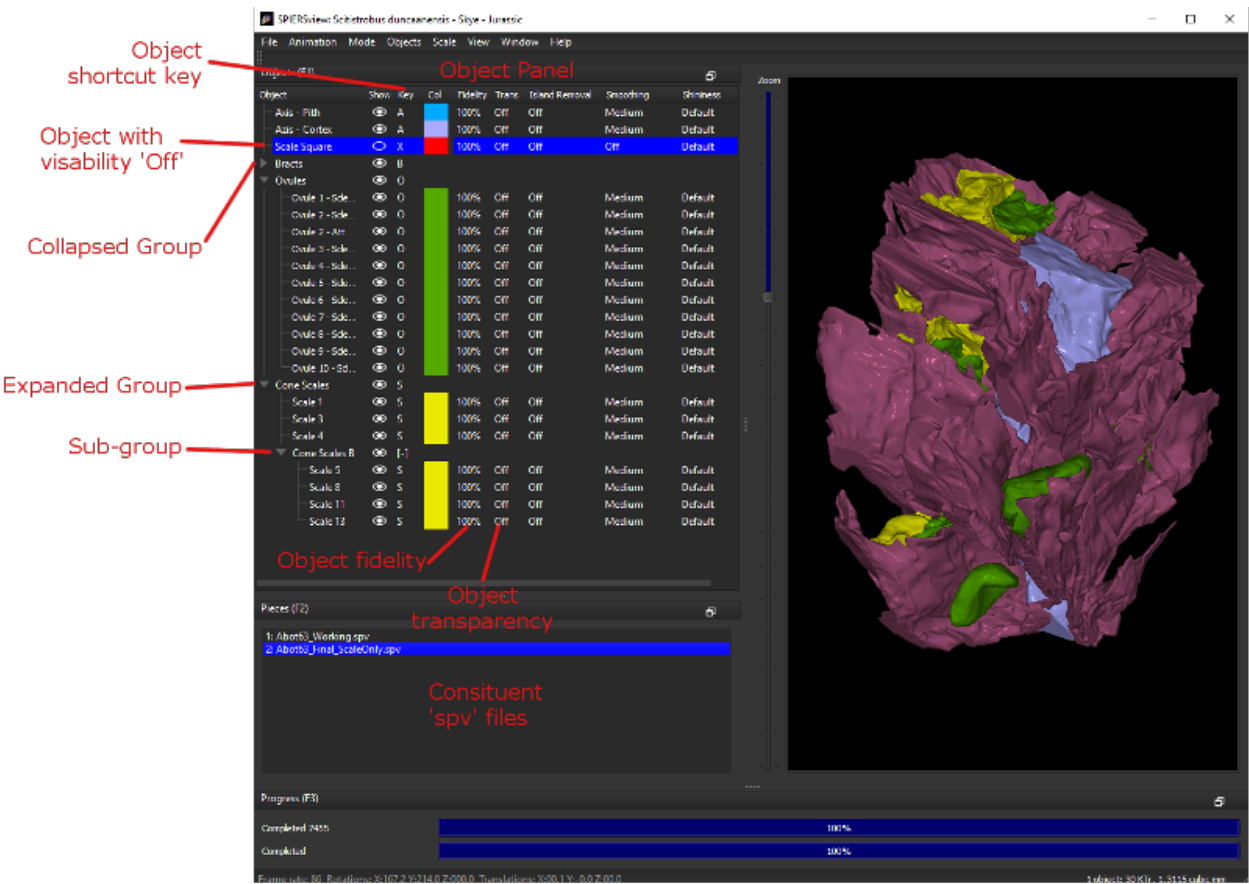

Fig. 2: Figure 2. Default anatomy of a SPIERSview object panel
Objects can be combined into groups; groups can also exist as subgroups within other groups (see Fig. 2), enabling the user to build up a hierarchy of objects to describe an anatomy. For instance, an arthropod model might include a group called ‘appendages’ – this in turn might include a subgroup called ‘cephalic’ appendages, which might in turn include a ‘mandibles’ group, consisting of a left and right mandible. Object grouping not only provides a convenient way to explain relationships, but also allows visibility to be controlled for sets of objects – in the above example for instance a key could be assigned to the appendages group, allowing the entire appendage set to be quickly hidden or shown.
Groups are indicated in the panel in a standard way (Fig. 2); they can be expanded or collapsed to show their contents. Groups only have two properties; their shortcut key, and their visibility.
Turning visibility off for a group does not alter the individual visibility settings of contained objects (or groups), but overrides them so they are all hidden. In Figure 2 for instance, all objects in the ‘Trunk Apps’ group are currently invisible (whatever their individual visibility setting), as this group is set to invisible. Once visibility is turned on again for the parent group, the individual visibility settings of its contained objects (or groups) are used again.
Objects listed in the object panel have seven properties detailed in columns to the right of the name (see Fig. 2; not all columns are visible at default panel size). The name (1st column), visibility (2nd column), shortcut key (3rd column) and display colour (4th column) are all modified simply by double-clicking. Note that display colour has no effect for VAXML/PLY datasets where the imported object has surface colour. The properties in the right hand five columns (Fidelity, Transparency, Island Reduction, Smoothing and Shininess) are set using commands on the object menu. Of these, only transparency and shininess are available in *Finalised/VAXML* mode.
SPIERSview can combine two or more ‘.spv’ format files (both compact and presurfaces varieties) into a single multi-piece model; this facility is useful for combining parts of an object initially reconstructed as multiple SPIERSedit datasets (e.g. part and counterpart of a fossil). Each ‘.spv’ file incorporated is known as a *piece*. The *Pieces panel* (see Fig. 2) shows all the pieces making up the currently open file – if no extra pieces have been imported, there will be only one such piece.